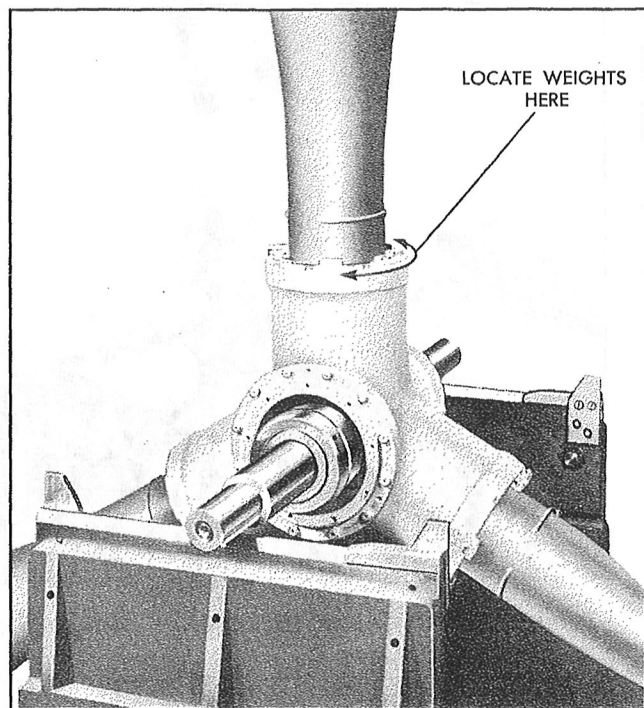

Figure 221—Balancing the Propeller Vertically
*Step 24.*—To locate the position of the final balance weights on the blade retaining nut, place the blades, one at a time, in a vertical position and locate the balance weights on the blade retaining nut to obtain the proper location for vertical balance, as shown in Figure 221.